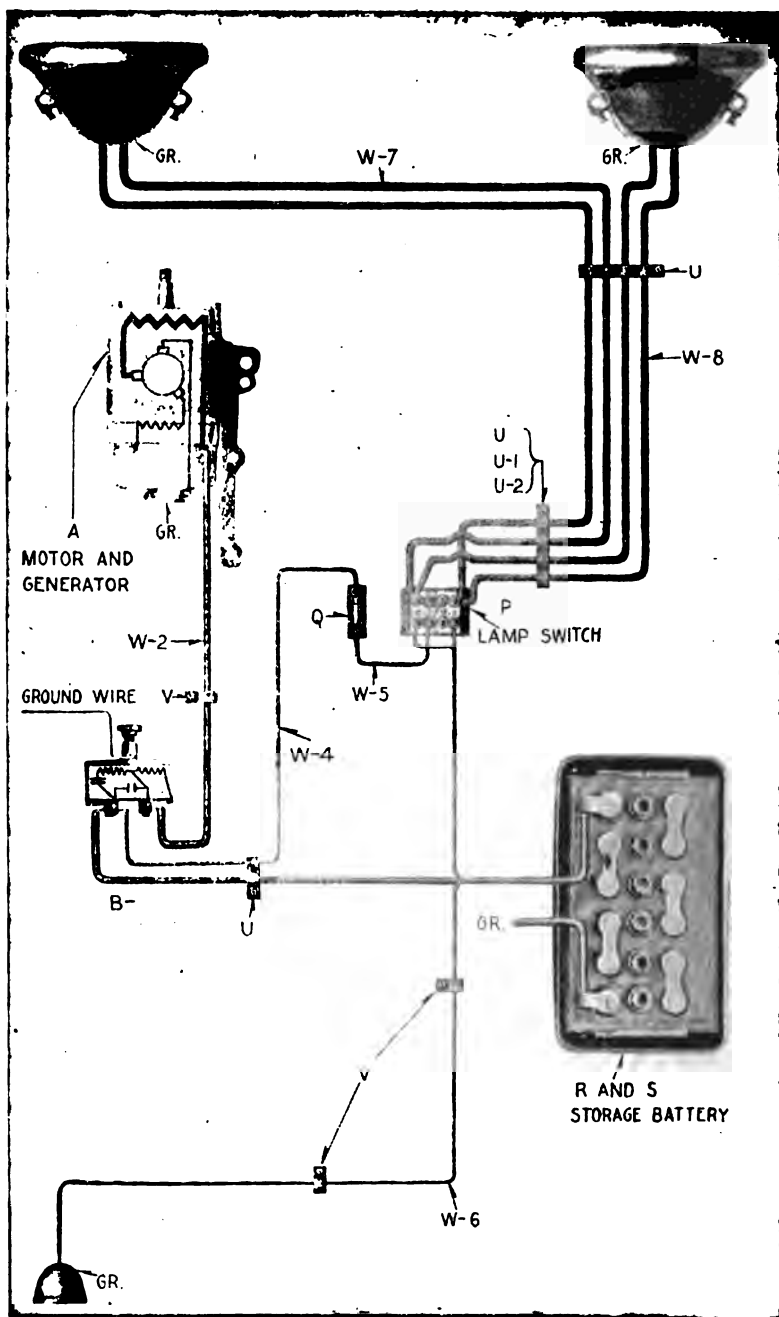

Fig. 437. Pictorial Wiring Diagram of Westinghouse Ford System with Other than Westinghouse Ford Lamps
**Wiring.** The wiring should now be fastened in place, as shown in Figs. 437 and 438. If Westinghouse lamps are used, the dimmer should be removed. Except where wood screws may be used to
There are terminals provided for the purpose of reversing the current through the interrupter contacts; changing the short connection from one side to the other side and changing the primary wire reverses the current direction. Connect the terminal *B* on the switch to the negative side of the battery. This connection can be made most easily by using the terminal *B-1* on the starting switch, as shown in Figs. 437 and 438. The positive side of the battery is grounded. The engine may now be started in the usual way.
volts and test the battery. If the reading with the lamps on is 11 volts or less, the battery is practically exhausted. Instructions for keeping the battery in good condition will be found under its appropriate heading in the section on Storage Batteries. Trouble of this nature, particularly in cold weather, is frequently caused by not driving the car long enough between stops, so that the generator has no opportunity to charge the battery. Look for an open circuit, i.e., broken wire or loose terminal, in the wires *W*, *W-1*, and *W-2*, Figs. 437 and 438. Remove the spring collar over the brushes and see that they are in good condition, not sticky or gummed with oil and dirt, and are making good contact over their entire bearing surface on the commutator.
The shunt-field brush *a* may not touch the commutator, Figs. 437 and 438. Adjust this brush, sanding it in, if necessary, and if this does not correct the trouble, test out the shunt-field circuit for open connections. This includes all circuits through the starting switch and the shunt-field winding. If the shunt-field winding is found to be open-circuited, the trouble was, no doubt, caused by an open circuit between the generator and the battery or by running the generator disconnected from the battery.
All the lamps may be burned out. This is likely to happen when a battery wire breaks or becomes disconnected. It is also not unlikely that the battery may be entirely exhausted, though it will seldom get down to a point where the lamp filaments will not glow at least a dull red, without its condition having been detected. If the lamps become dim as soon as the engine stops, this indicates an exhausted battery, and if not convenient to drive the car to recharge it, the battery should be charged from an outside source. When the lamps flicker or go out momentarily, there is a loose connection, and the fact that all the lamps are thus affected indicates its location at the battery or in the wire *W-1*, Fig. 437. Should but one lamp be affected, only its particular circuit is at fault, and the trouble will usually be found in the socket itself, though a parted ground connection, which, owing to the vibration, will sometimes touch and at other times be shaken away from its contact, may be responsible. As a 6-cell battery is supplied, 14-volt lamps must be used.